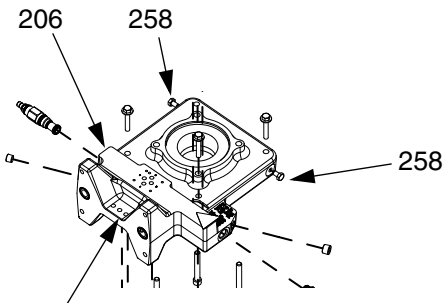
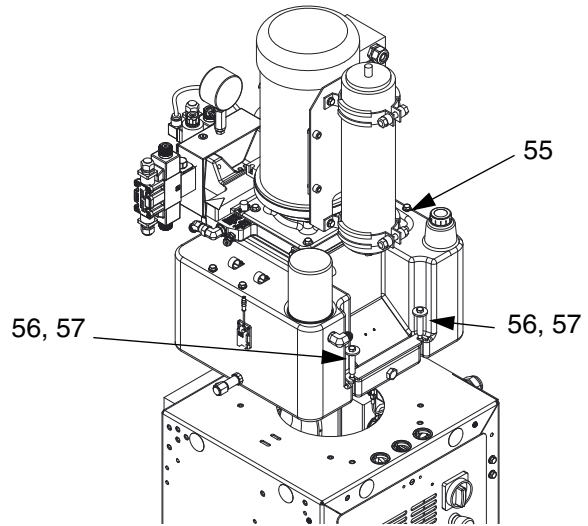

FIG. 24
FIG. 25
1. Run a rope through the three eye-bolts and between the motor and the accumulator. Secure to a hydraulic lift. See FIG. 24 on page 28.
2. Lift the Hydraulic Power Pack and place onto the base enclosure. See FIG. 25.
3. Align the holes with the tank then install finger-tight the four bolts (57) and washers (56) securing the tank to the stand. Torque to 10 ft-lb (13.5 N•m).
5. Remove eye-bolts. Install original bolts (258) into fluid housing (206). See FIG. 24 on page 28.